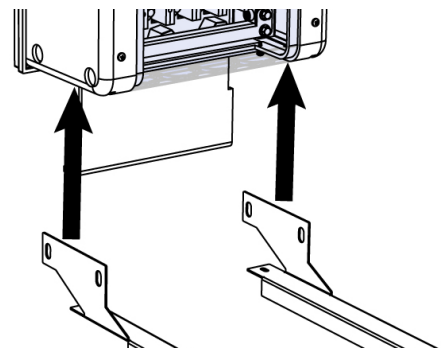

Figure 8. DCX mounting bracket slots
- Step 1.** Use the 3/8 in. bolts and washers included in the hardware kit to install the left and right mounting brackets via the slots in the underside of the DCX unit. Tighten the two bolts per side finger tight for alignment later. Refer to Figure 8 and 9.